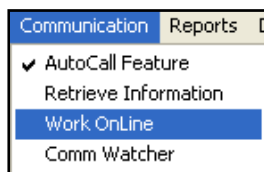

Fig. 8.11
- 1) Select **Configuration** at the top of the program and then select **Systems** (Fig 8.11). The System Information window will appear.
- 1) Select the **Communication Menu** and then select **Work Online** (Fig. 8.11).